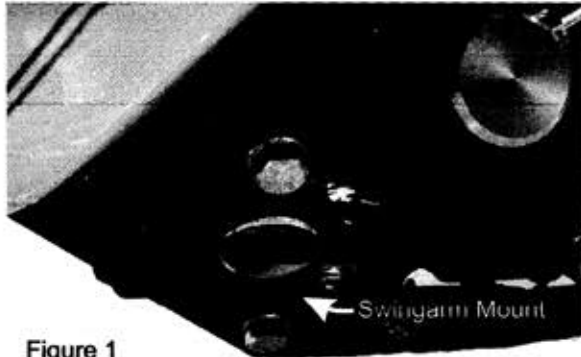

Figure 1
2. Loosen or remove right side exhaust components and any other accessories that would prohibit access and removal of the right "rear fork mount" or swingarm mount. (figure 1)